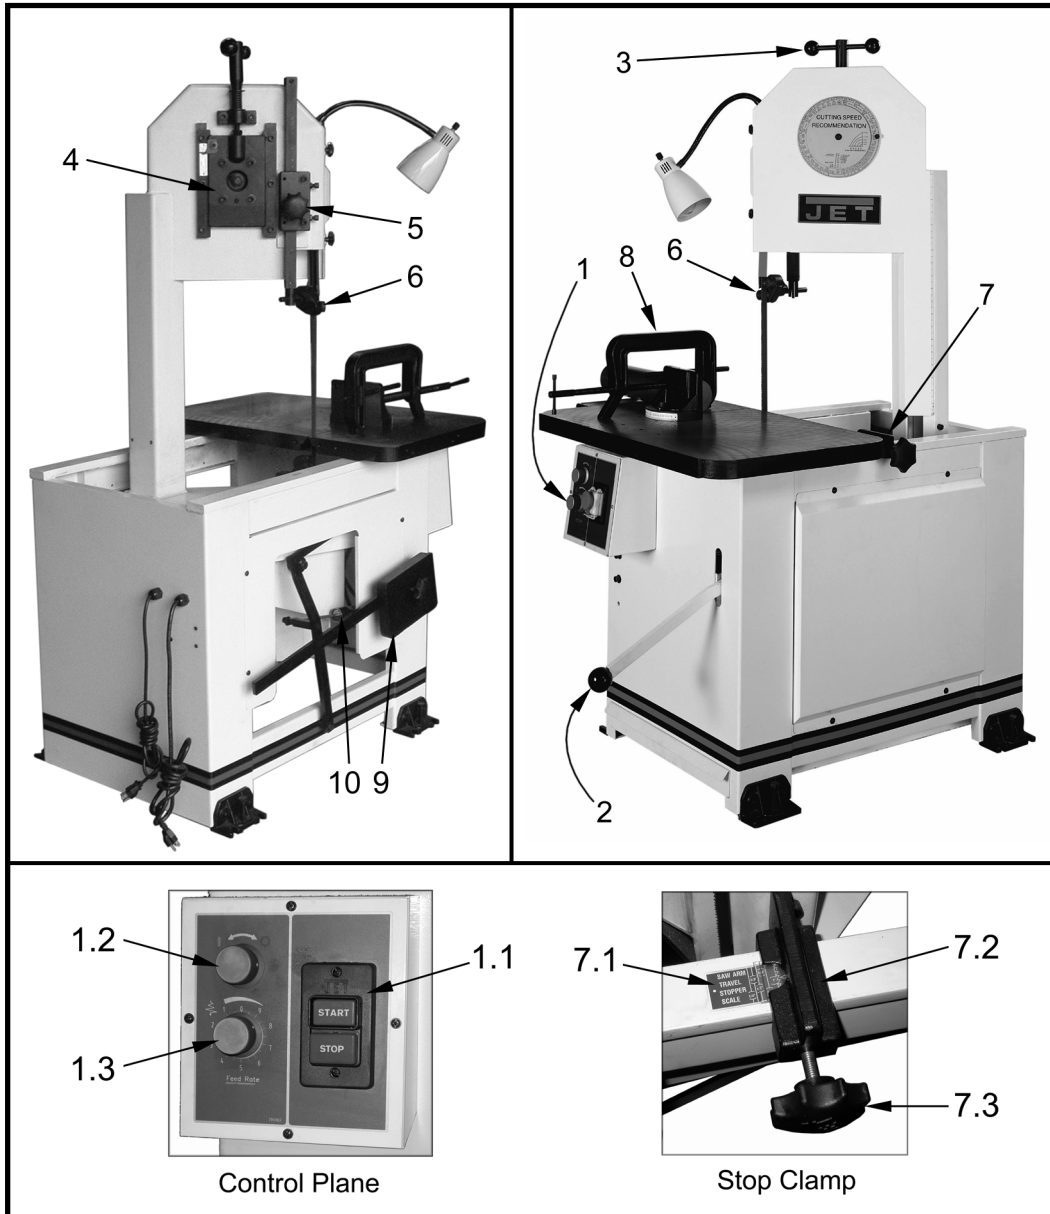

Figure 3: Component Descriptions and Locations
- 7.2. Stop Clamp – Used with the Stop Clamp Scale (Figure 3 Item 7.1) to select the size of the blade.
- **ON / OFF Switch** (Figure 3 Item 1.1). Located on the right side of the control panel. Press this switch to start or stop the machine.
- **Feed Control Knob** (Figure 3 Item 1.3). Located on the left side of the control panel. The knob is the hydraulic cylinder feed control valve. It is used to set the amount of force that is applied to the saw blade. The feed rate is proportional to the opening of the valve. Increasing the valve opening (counterclockwise) increases the feed rate; decreasing the valve opening (clockwise) reduces the feed rate.
2. Place the saw frame in the rearmost position by pushing down on the saw frame release lever (Figure 3 Item 2) and lock it by turning the saw frame release knob (Figure 3 Item 1.2) clockwise.
1. To remove the blade, place the saw frame in the rearmost position by pushing down on the saw frame release lever (Figure 3 Item 2) and lock it by turning the saw frame release knob (Figure 3 Item 1.2) clockwise.
5. Turn the blade tension handle (Figure 3 Item 3) counterclockwise until the blade hangs loose.